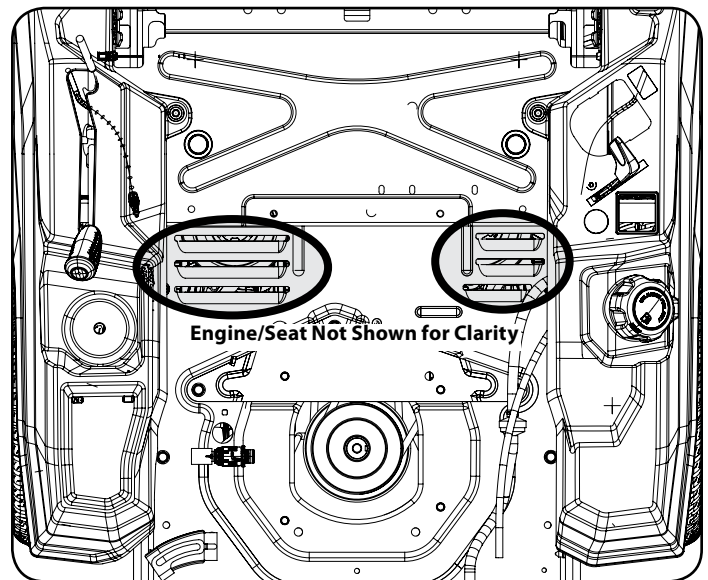

Figure 20
- Keep both sides of transmission cooling slots, exhaust manifold, around fuses, all wiring and harnesses, muffler pipe, muffler shield, engine intake screens and cooling fins, etc clear of grass clippings and leaves. See Figure 20.